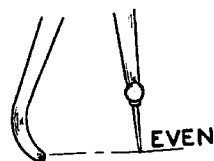

FIG. 11 ADJUSTING LENGTH OF SCRIBER LEG
2. Adjust the length of the scriber leg so that it is even with the inside edge of the rounded caliper leg when it is to be used to scribe lines from the outside edge of the work. (Fig. 11).